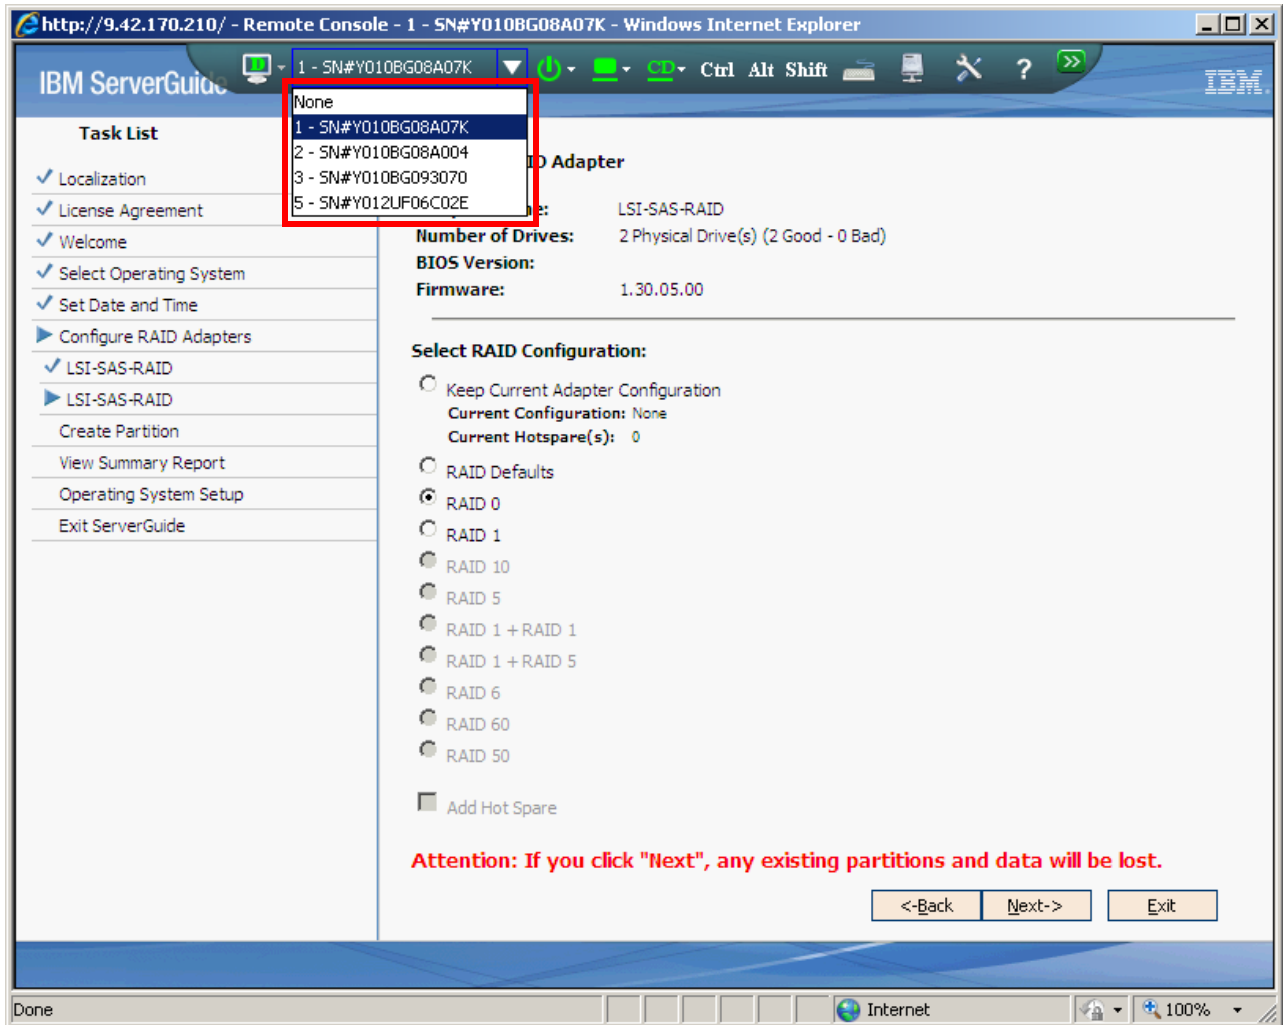

Figure 9-17 Selecting which blade's video output to display
4. To view the video of a blade, select the blade from the pull-down list box, as shown in Figure 9-17 on page 467. You can obtain additional instructions for power control, mounting remote media, and soft key programming in the *IBM BladeCenter Advanced Management Module Installation Guide* at the following website: